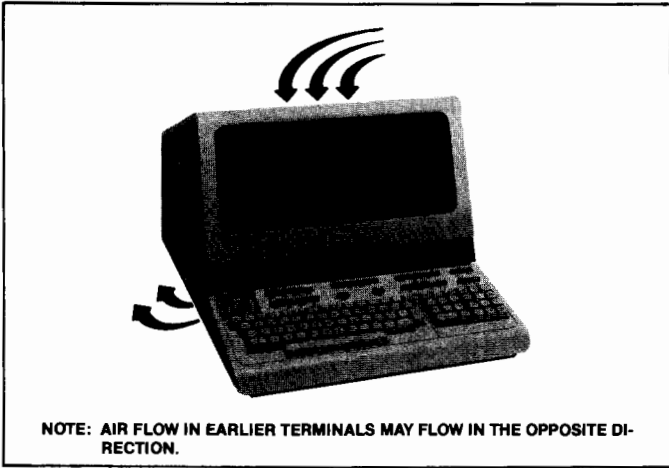

Figure 2-4. Terminal Cooling Air Flow
1. Place the terminal on any convenient surface, except plush or spongy surfaces that might restrict air flow through the bottom vents; for example, do not use typewriter pads (figure 2-4).